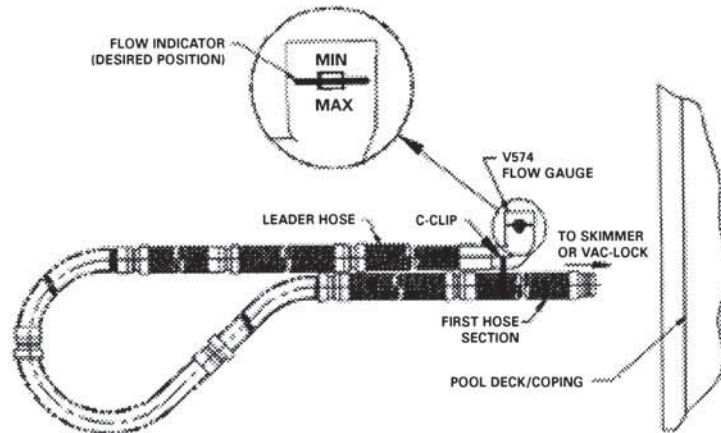
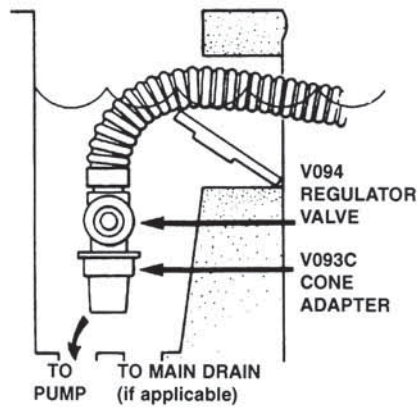

Figure 2
Figure 4
The hose should reach from the skimmer or Hayward Vac Lock® to the furthest point in the pool, **plus two (2) extra hose sections**. (The length of each hose section is four feet.) **This extra length is absolutely necessary for proper operation of the Navigator**. If the hose is not long enough, it will be necessary to purchase additional hose sections from your Hayward Navigator dealer. The hose length supplied (40 feet) has been determined to be sufficient for the majority of pools nationally. If your hose requirement is more than this, you must obtain additional hose sections for your cleaner to work properly. After the correct hose length has been assembled, fill hose completely with water. Insert Flow Gauge into the leader hose, then attach the C-Clip of the gauge onto the first hose section. Make sure the Flow Gauge is under water. (see Figure 2)
Check the water flow reading on the Flow Gauge. (Refer to Step 4, Figure 2). The black disk should be in the box between the "MIN" and "MAX" markings. If the setting is higher than required with the black disk outside of the box on the "MAX" side and you have connected your hose to the skimmer, it will be necessary to reduce the vacuum/water flow by using a valve or valves in the filter system, or the Hayward V094 Regulator Valve or an optional Hayward Automatic Skimmer Vacuum Plate designed to adjust vacuum/water flow. To install the V094 Regulator Valve, turn the filter system off. Remove the hose from the V093C Skimmer Cone, and after closing the Regulator Valve (Rotate the blue collar clockwise/toward + until closed/tight), insert the Regulator Valve into the Skimmer Cone, and insert the hose end into the Regulator Valve (see Figure 4).
If you have connected your hose to the Hayward Vac Lock, it will be necessary to adjust the vacuum/ water flow using the 3-way valve at the filter system. The handle on the valve should be turned so that the Flow Gauge which is installed in the Navigator hose reads properly (refer to Figure 2). After the 3-way valve has been properly adjusted, **the vacuum gauge at the 3-way valve should be marked so that the water flow can be adjusted by referring to the gauge at the valve**, rather than reinstalling the Flow Gauge in the hose each time an adjustment is necessary.
Some skimmers have two (2) holes in the bottom. There might be a valve, float or cover over the holes. Remove everything in the skimmer, exposing the holes. The rear hole is usually the suction port. In some cases it will be necessary to use the V094 Regulator Valve to control water flow through the Navigator (*see Figure 4*).